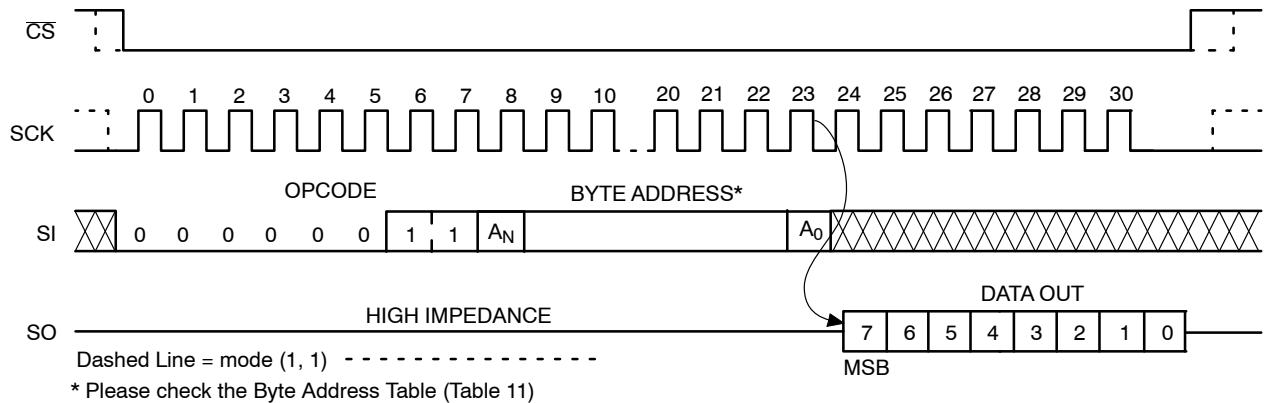

Figure 9. READ Timing
After receiving the last address bit, the NV25256 will respond by shifting out data on the SO pin (as shown in Figure 9). Sequentially stored data can be read out by simply continuing to run the clock. The internal address pointer is automatically incremented to the next higher address as data is shifted out. After reaching the highest memory address, the address counter “rolls over” to the lowest memory address, and the read cycle can be continued indefinitely. The read operation is terminated by taking  $\overline{CS}$  high.
Reading the additional 64-byte Identification Page (IP) is achieved using the same Read command sequence as used for Read from main memory array (Figure 9). **The IPL bit from the Status Register must be set (IPL = 1) before attempting to read from the IP.** The [A5:A0] are the address significant bits that point to the data byte shifted out on the